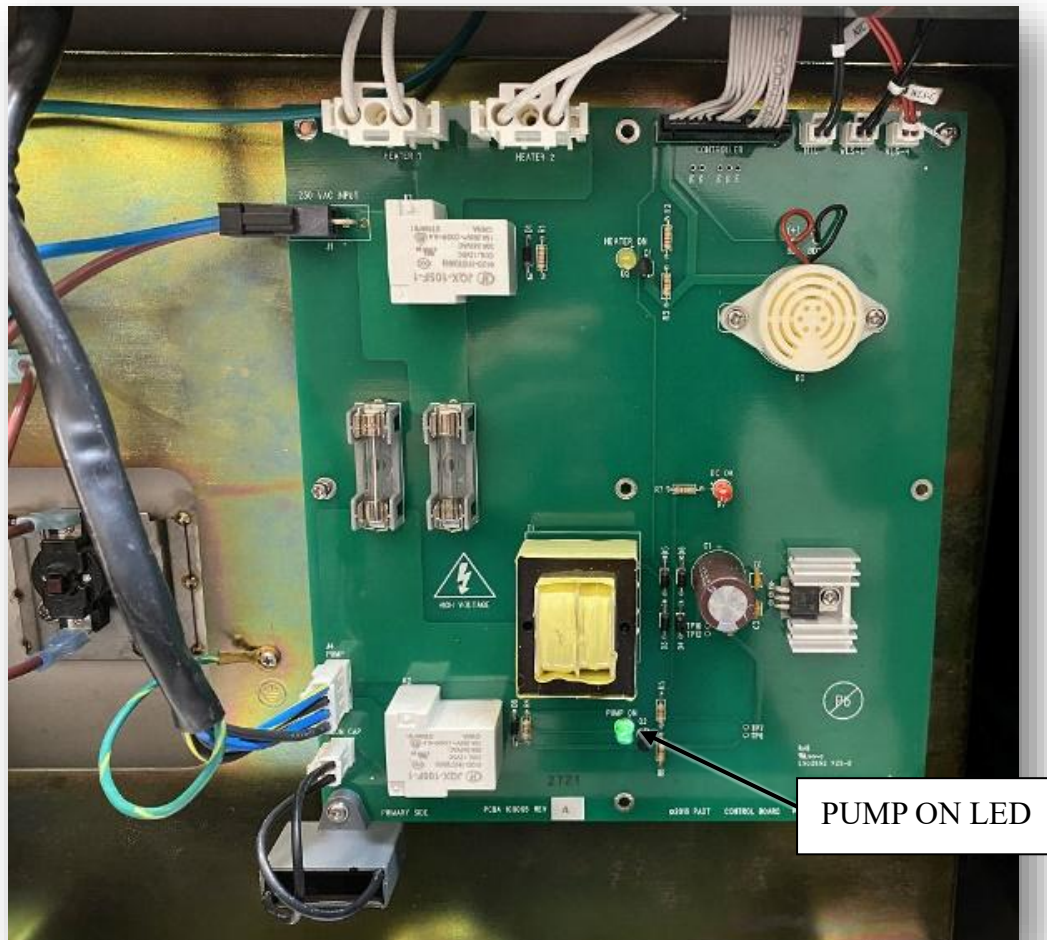

Figure 19 – Pump On LED
- Power on the SCA and press the Start Button  on the Control Panel. The “PUMP ON” LED should light up when the Start Button is pressed. Check if the “PUMP ON” LED is illuminated (See Figure 19).